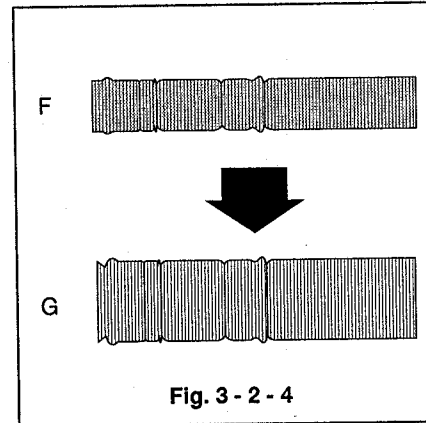

Fig. 3-2-4
- ② Preset tracking. (Refer to NOTE 1 in Para. 3.)
- ③ Check the FM waveform after checking and adjusting the guide rollers:
- ④ If the amplitude of the FM waveform is narrow like F because of out of phase, adjust it to maximum like G, as shown in Fig. 3-2-4 by the following procedure. Loosen the screw E, insert a screw driver into the groove at the Base A/C and the main plate, and shift the Base A/C right and left.
- ⑤ Tighten the screw E to secure the base-A/C in place.